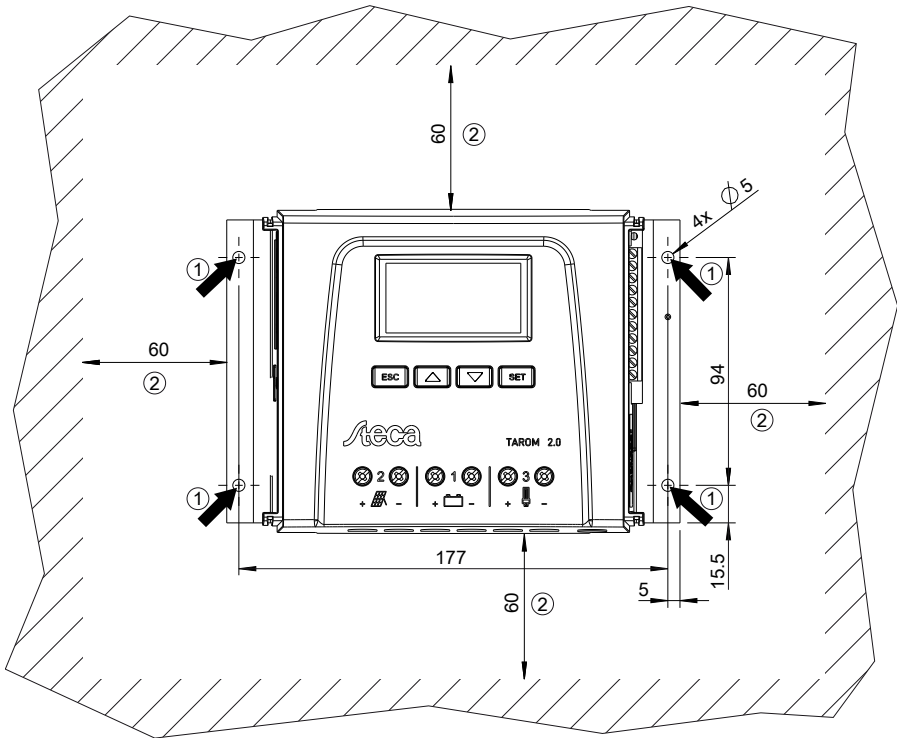

Fig. 4: Fastening openings ① and free space ②
- A free space of at least 60 mm must be present on all sides of the controller. The required free space relates to the controller *without* covers; see ② in Fig. 4.
- Do not drill through the fastening openings ① (Fig. 4).
- 3.** ➤ Position the controller level on the mounting surface and mark the mounting holes through the fastening openings ①.